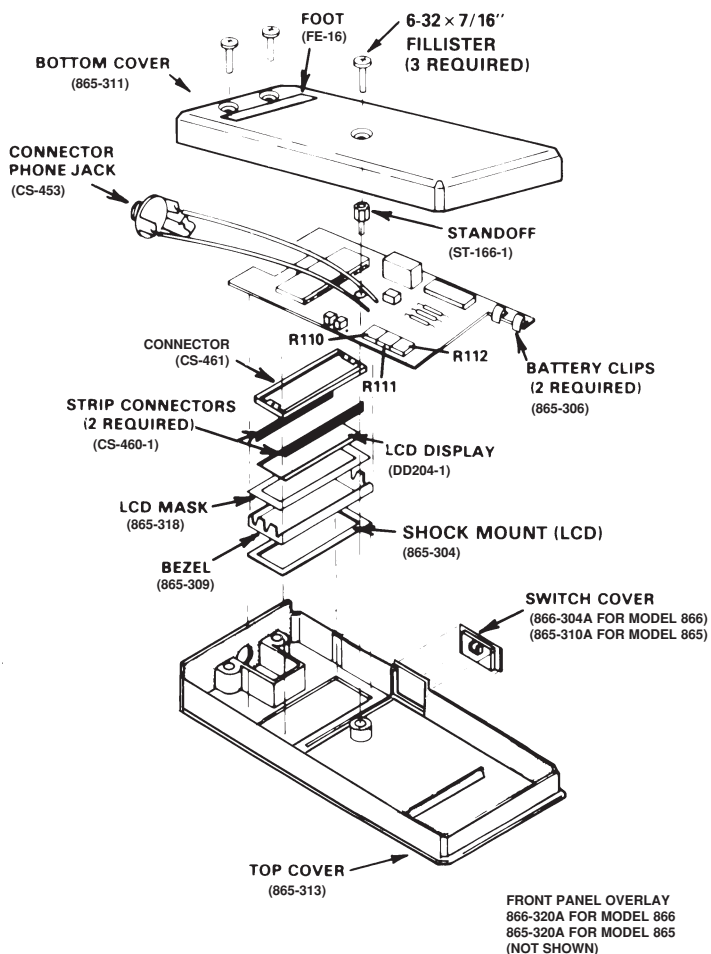

Figure 4. Models 865 and 866 Exploded View
7. The LCD is held in place on the PC board by a shock resistant mount and is assembled as shown in Figure 4.